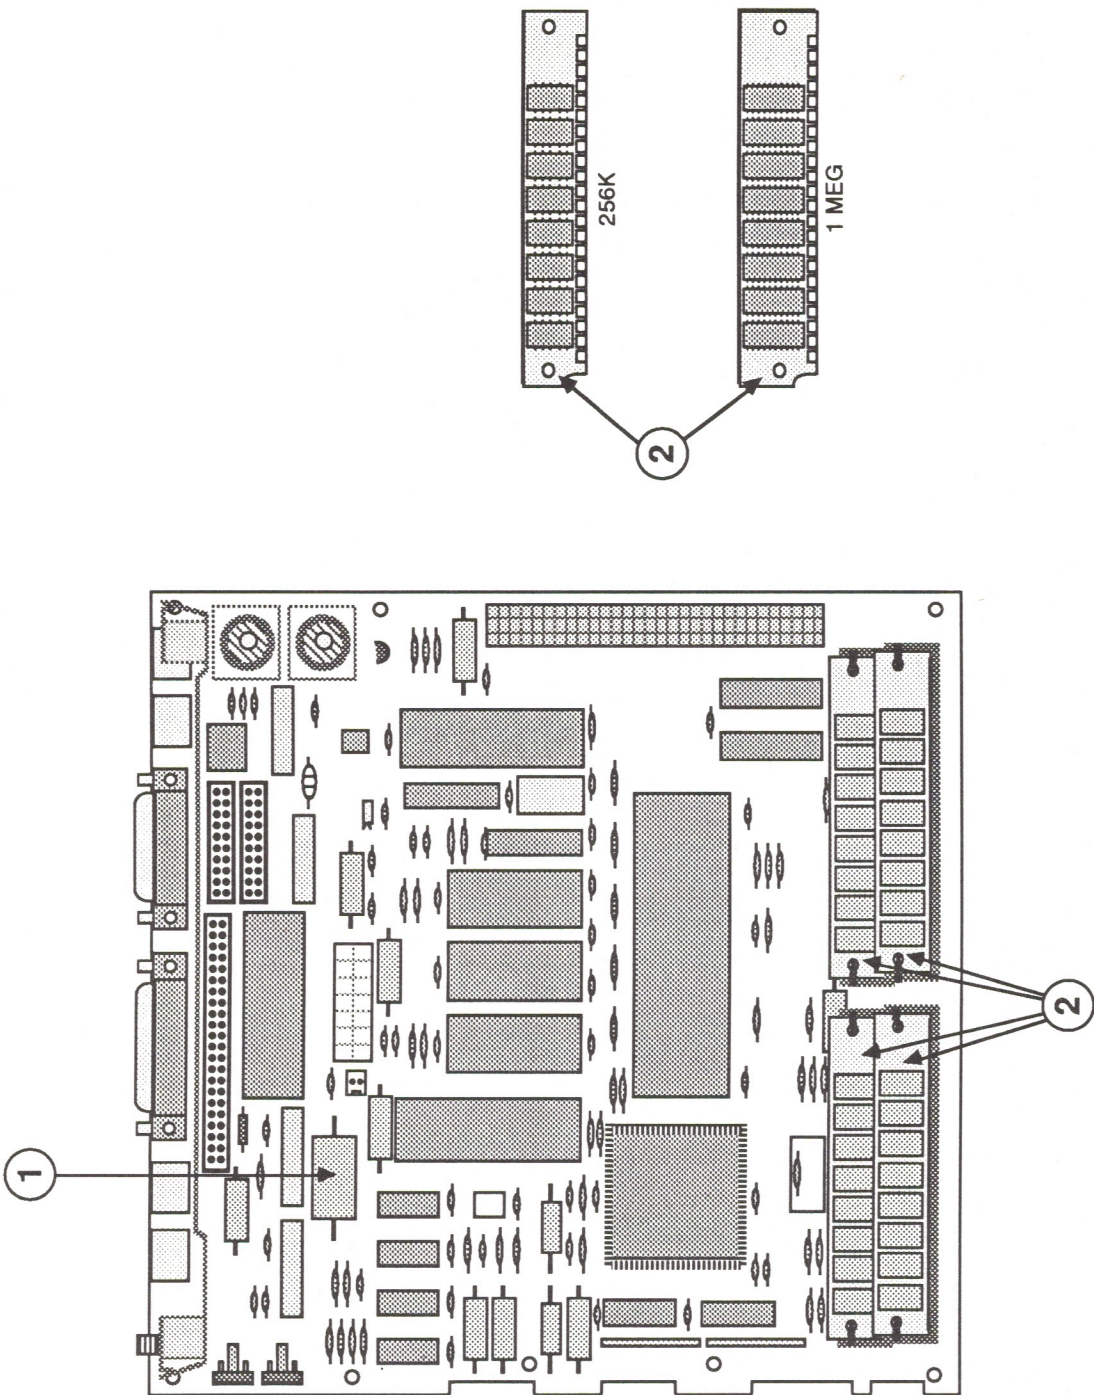

FIGURE 4
IPL.9	Logic Board (Figure 4)
□ **MACINTOSH SE – LOGIC BOARD (Figure 4)**